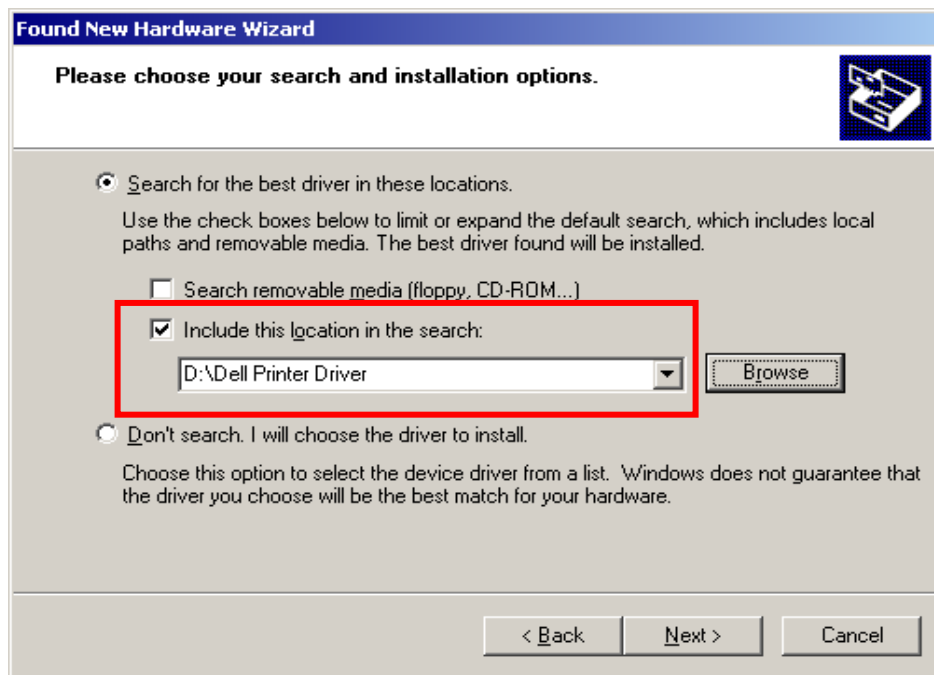

Figure 10.12 – New Hardware Wizard Driver Location
- 5) Select **Search for the best driver in these locations**. Only select the **Include this location in the search:** check box and click **Browse** to navigate to the folder on the USB storage device where the printer drivers are stored. Click **Next**. (See Figure 10.12)